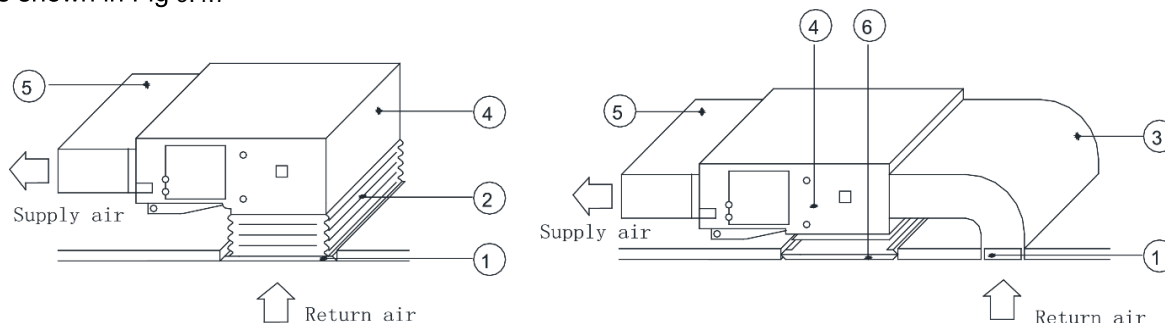

Fig 9.4.7
- (2) If the bottom return air is desired, just change the place of the rectangular flange and the return air cover plate.
- (3) Connect one end of the return air duct to the return air outlet of the unit by rivets and the other to the return air louver. For the sake of the convenience to freely adjust the height, a cutting of canvas duct will be helpful, which can be reinforced and folded by 8# iron wire.
- (4) More noise is likely to be produced in the bottom return air mode than the rear return air mode, so it is suggestive to install a silencer and a static pressure box to minimize the noise.
- (5) The installation method can be chosen with considering the conditions of the building and maintenance etc. as shown in Fig 9.4.7